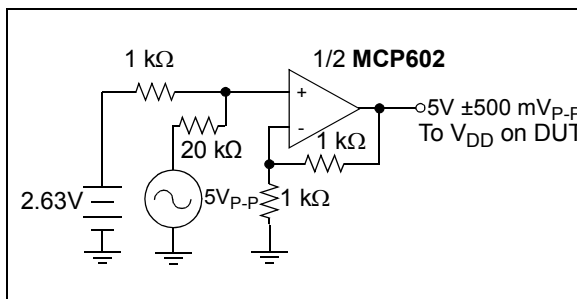

FIGURE 1-4: Power Supply Sensitivity Test Circuit (PSRR).
Note 4: V_{DD} = 5V DC ±500 mV_{P-P} @ 1 kHz, see test circuit Figure 1-4.
Note 4: $V_{DD} = 5V$ DC $\pm 500 \text{ mV}_{P-P}$ @ 1 kHz, see test circuit Figure 1-4.
- 4: $V_{DD} = 5V$ DC ± 500 mV_{P-P} @ 1 kHz, see test circuit Figure 1-4.